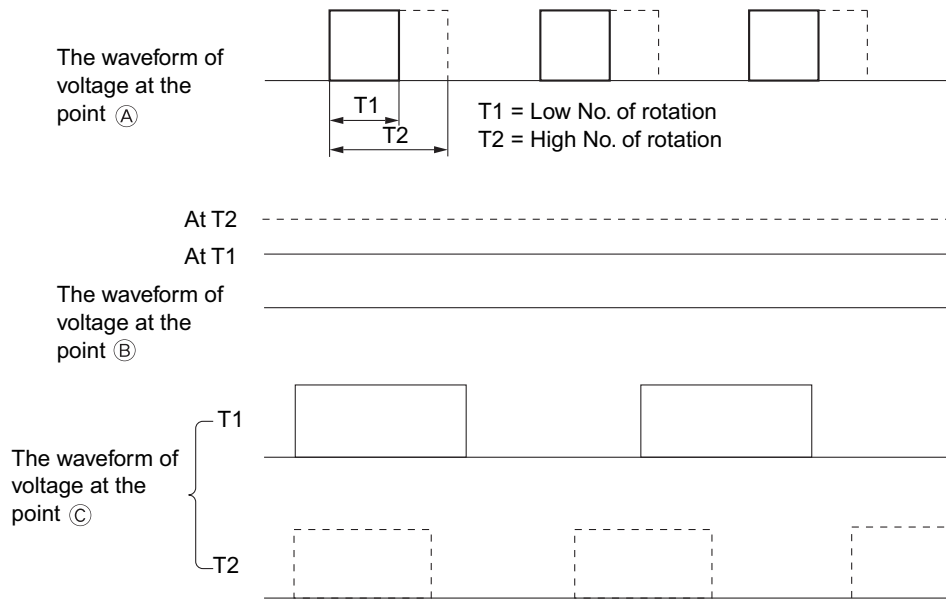

Fig. 5-2
- The 15.7 kHz PWM pulse shown in Fig. 5-2 from the micro-computer pin 40 is output to point A. The width of this pulse changes with instruction number of rotations.